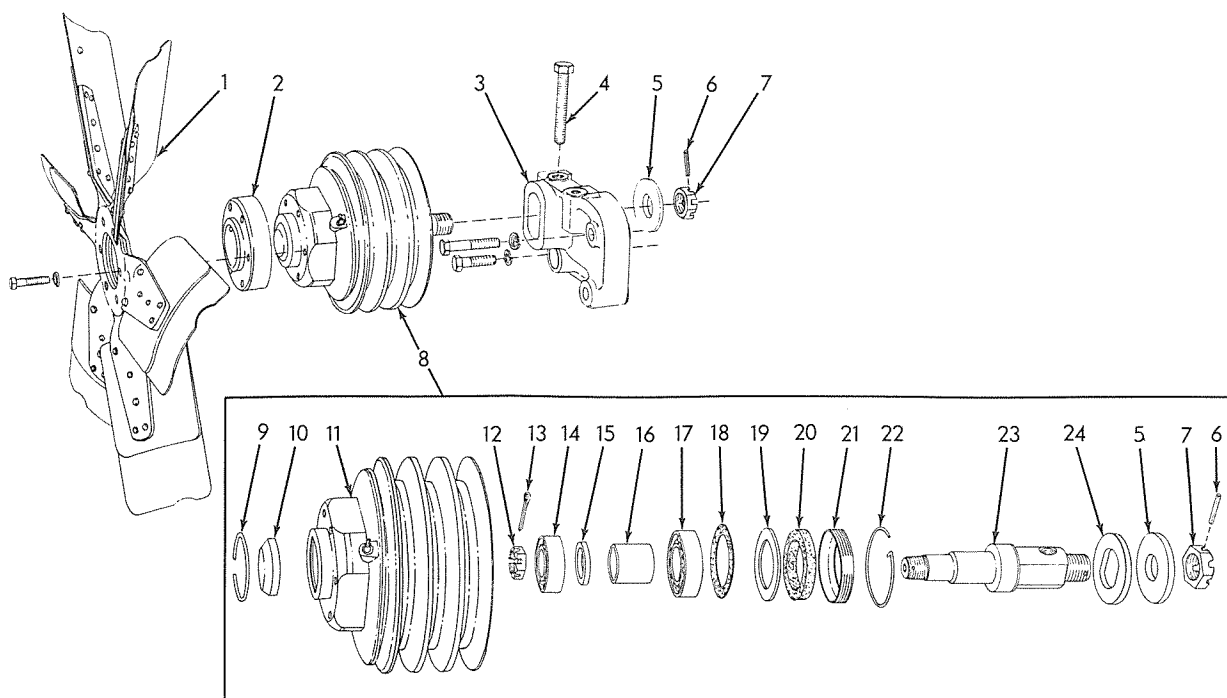

Fig. 8—Fan Hub Details (Motor Graders, Tractor Loaders, and Tractor Dozers)
b. Install plain washer (5) and nut (7) on spindle (23). Tighten nut securely and install roll pin (6).
c. Install fan mounting bracket (3) in position on cylinder block and secure with capscrews and lockwashers.
f. Install and connect lubricating hose (24).
g. Install fan (1).
3. FAN HUB INSTALLATION (MOTOR GRADERS, TRACTOR LOADERS, AND TRACTOR DOZERS) Fig. 8
a. Place washer (24) on spindle (23) and install fan hub assembly (8) in position in bracket (3).
b. Install adjustment screw (4), washer (5), and slotted nut (7), but do not tighten nut at this time.
c. Install and adjust fan belts and generator drive belt, then tighten slotted nut (7) securely and lock with roll pin (6).